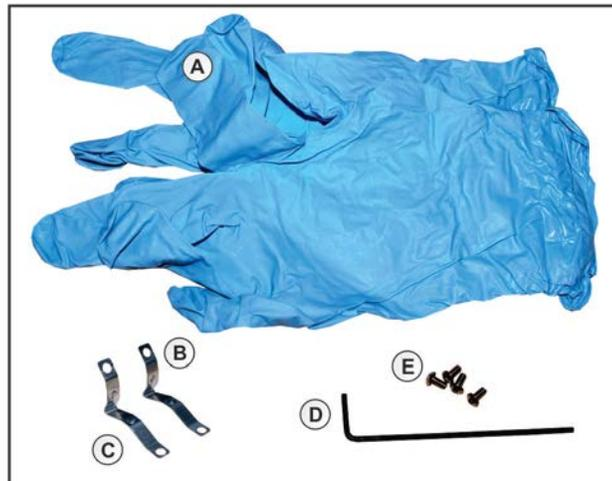

Figure 1 Spring Clip Integrator Service Kit Parts
- c. Remove the hex screw securing the snood and remove (**Figure 1**).